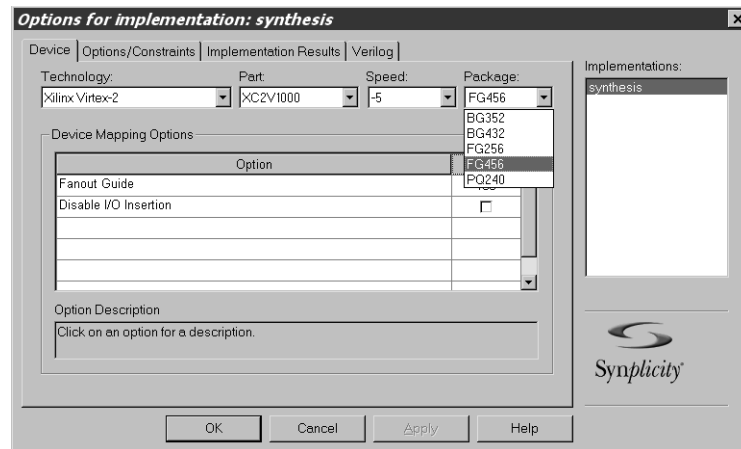

Figure 5-7: Options for Implementation: Device
12. From the main project window, click Change Target to display the Options for Implementation dialog, Figure 5-7.